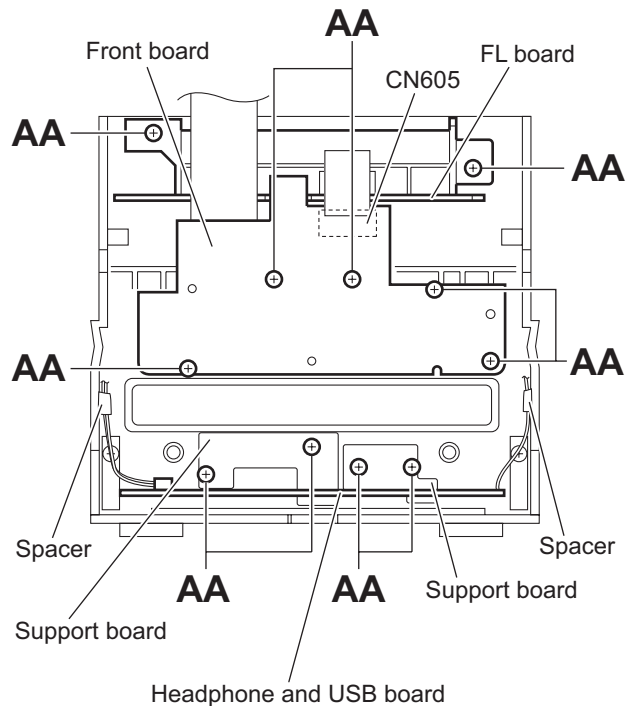

Fig.30
3.1.14 Removing the front board (See Fig.30)
(1) From the inside of the front panel assembly, disconnect the card wire from the connector CN605 on the front board.
(2) Remove the five screws **AA** and take out the front board.
3.1.15 Removing the FL board (See Fig.30)
3.1.16 Removing the headphone and USB board (See Fig.30)